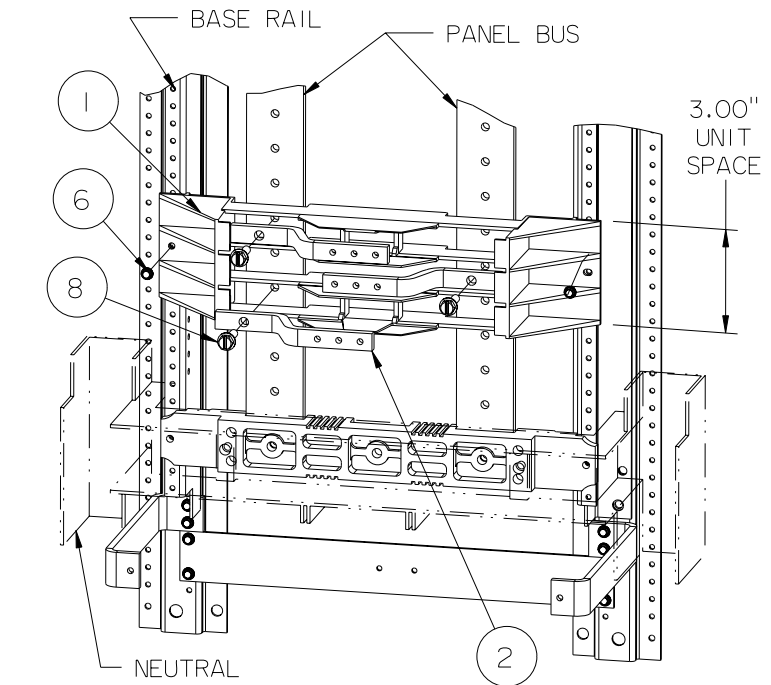

Figure 4
6. Refer to fig. 4. - Position the breaker mounting barrier (item 1) so that it fills the 3" unit space for the kit and fasten it to the base rails using two 8-32 screws (item 6). Install the phase connectors (item 2) within the mounting barrier, alternating between the left and right panel bus. The left-right-left connector pattern shown in fig. 4 may be reversed if necessary to continue a connector pattern already in place in the panel. Fasten the connectors to the panel bus with three 1/4-20 X 1" screws (item 8).